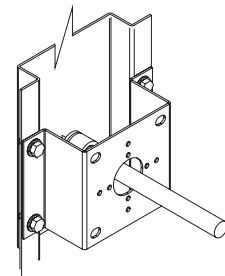

Figure 3 — Stand Off Bracket Position
- d. Install stand off bracket with bearing over the extended control shaft and fasten bracket to damper frame using (4) #14 Tek screws (by others). Make sure screws do not interfere with damper linkage or blade movement. Refer to Figure 3.